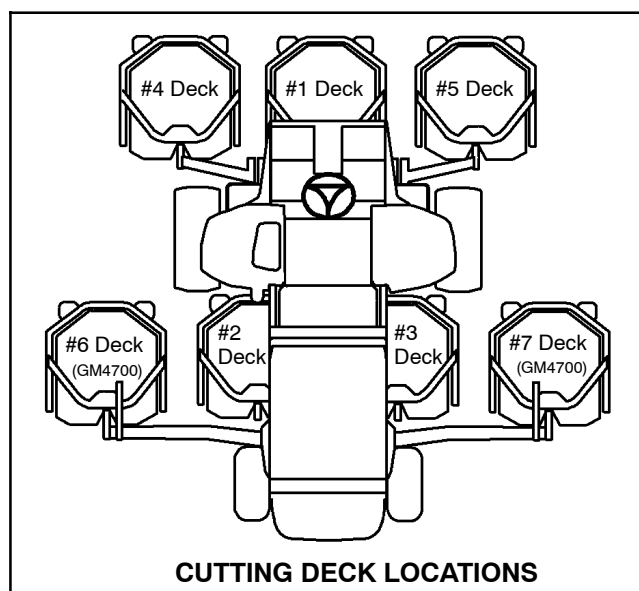

Figure 49
1. Make sure hydraulic oil is at normal operating temperature by operating the machine for approximately ten (10) minutes. Make sure the hydraulic reservoir is full.
A. For the first gear pump section (decks #2, #3, #5 and #7), cutting deck circuit relief (PRV2) is tested at the inlet to the deck #5 motor (Fig. 49).
B. For second gear pump section (decks #1, #4 and #6), cutting deck circuit relief (PRV1) is tested at the inlet to the deck #1 motor (Fig. 49).